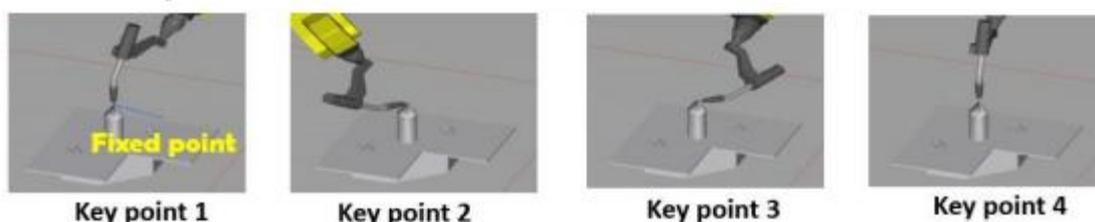

Figure 2.6 Sharp cone end of workpiece is used as reference point to establish TCS
- (1) Find a very accurate fixed point (the sharp cone end of the workpiece) within the working range of the robot as the reference point.
- (2) Manually teach the robot, and use different tool postures to just touch the TCP of the robot tool with the reference point as far as possible, as shown in Figure 2.6.
- (3) Through the 6-joint data of the robot flange position in four different postures of key point 1-key point 4, the system can automatically calculate the TCP data.
- (4) System records TCP data and constructs the conversion relationship between tool coordinate system, flange coordinate system and base coordinate system.